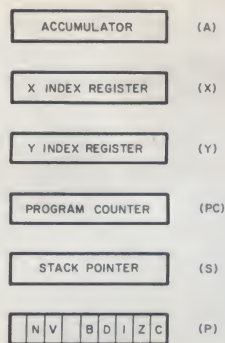

Fig. 1. The six registers contained within the MCS65XX microprocessors. Each is eight bits wide, except the Program Counter (PC), which is a 16-bit register.
Fig. 1 is a block diagram of the 65XX internal makeup. The accumulator (A) handles eight bits of data at a time. The eight-bit X and Y registers are used in the indexed addressing modes and can also be used as storage and counting registers during the execution of a program.